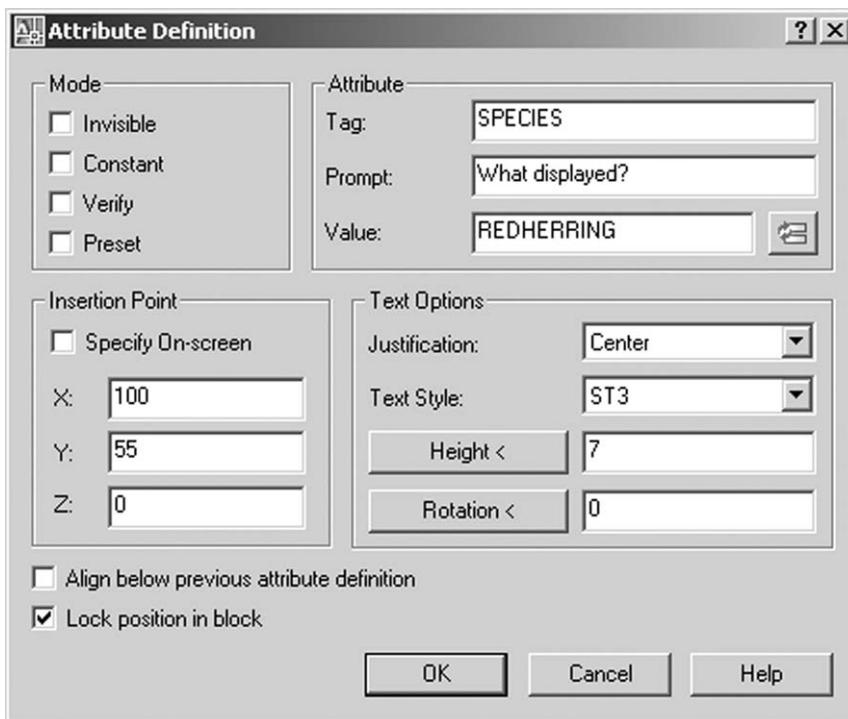

Figure 28.8 The Attribute Definition dialogue box for the tag: SPECIES.
- lock position in block: active – Figure 28.8